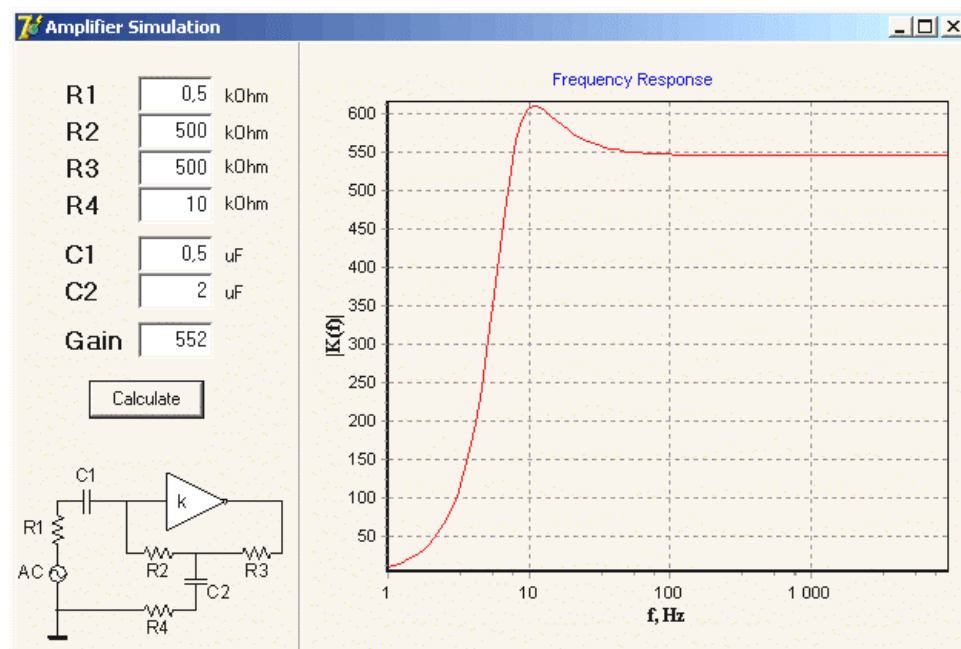

Figure 4. PC Application
In order to facilitate the estimation of frequency-gain response characteristics at middle frequencies, a simple PC application was developed. This application tabulates and plots a frequency response curve according to Equation (1). The interface is shown in Figure 4.